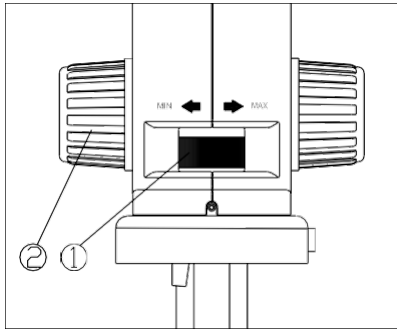

Fig. 8
- 1) Rotate the zoom adjustment ring ① to the maximum magnification (highest number).
- 2) Observe the output image. If it is not sharp, rotate the focusing knob ② to make it sharp.
- 3) Rotate the zoom adjustment ring to the minimum magnification. Observe the output image to ensure it is sharp. (See Fig. 8)